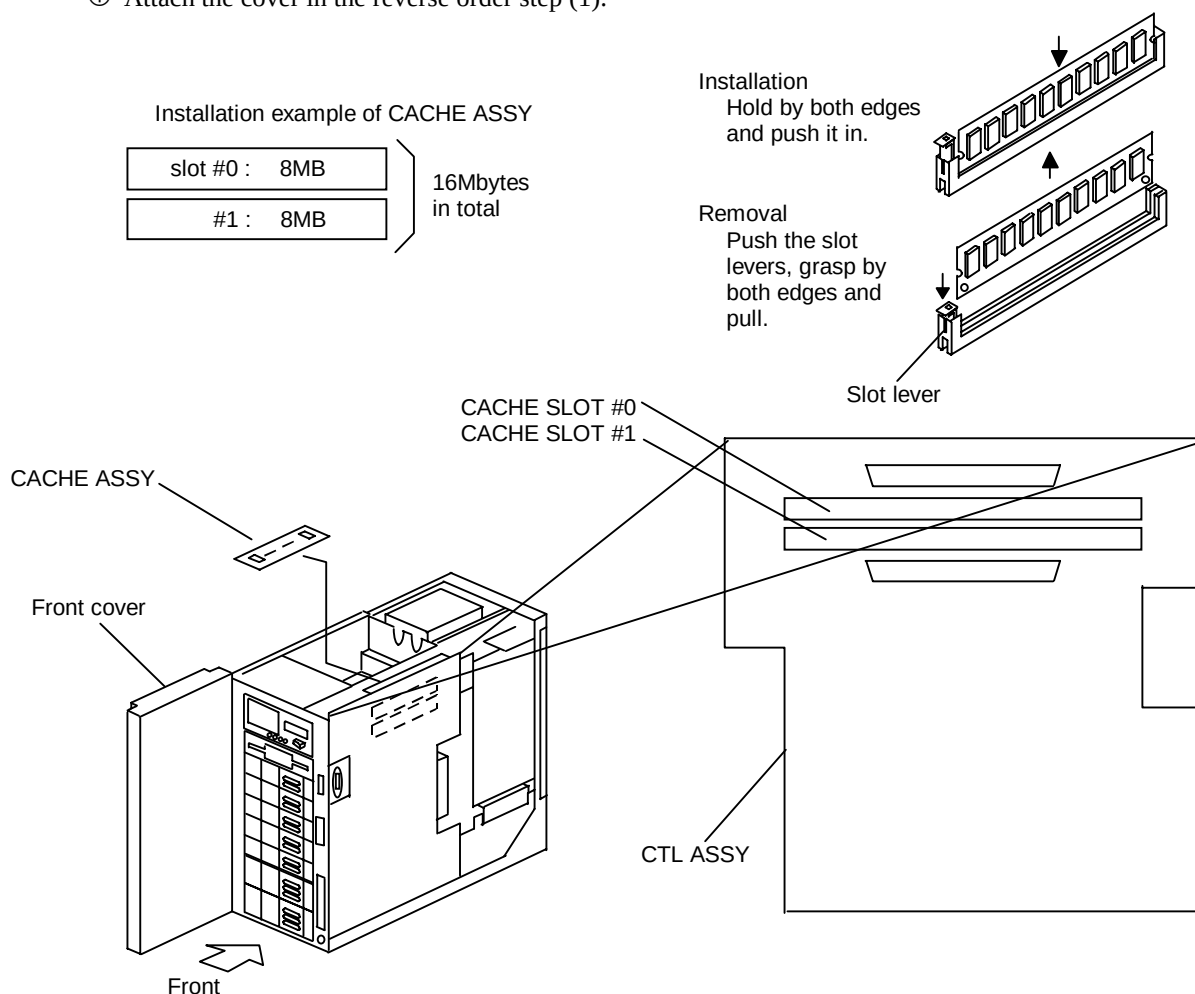

Figure 14.1 Replacing CACHE ASSY
14. Replacing CACHE ASSY (See Figure 14.1.)